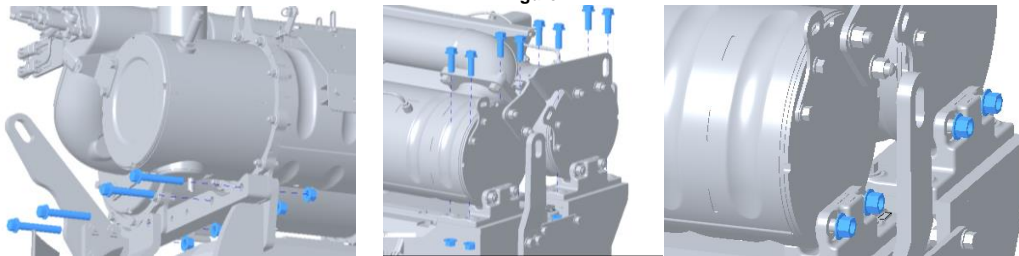

Figure 15
15. Tighten the M12X70 bolts (26) and M12 (28) nuts loosely installed on step 13 in a sequence from left to right as shown in the figure 15 and 16.